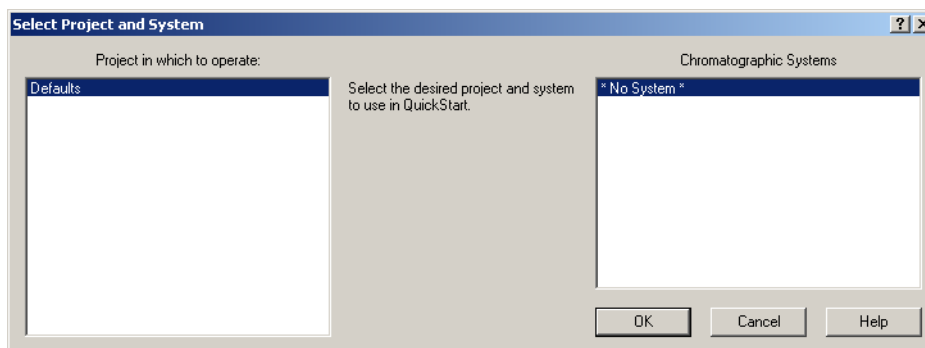

Figure 3-3 Select Project and System Dialog Box
6. Unless a Waters Service Engineer has configured a system for you, the Select Project and System dialog box appears (Figure 3-3). Click **OK** to start the QuickStart interface.